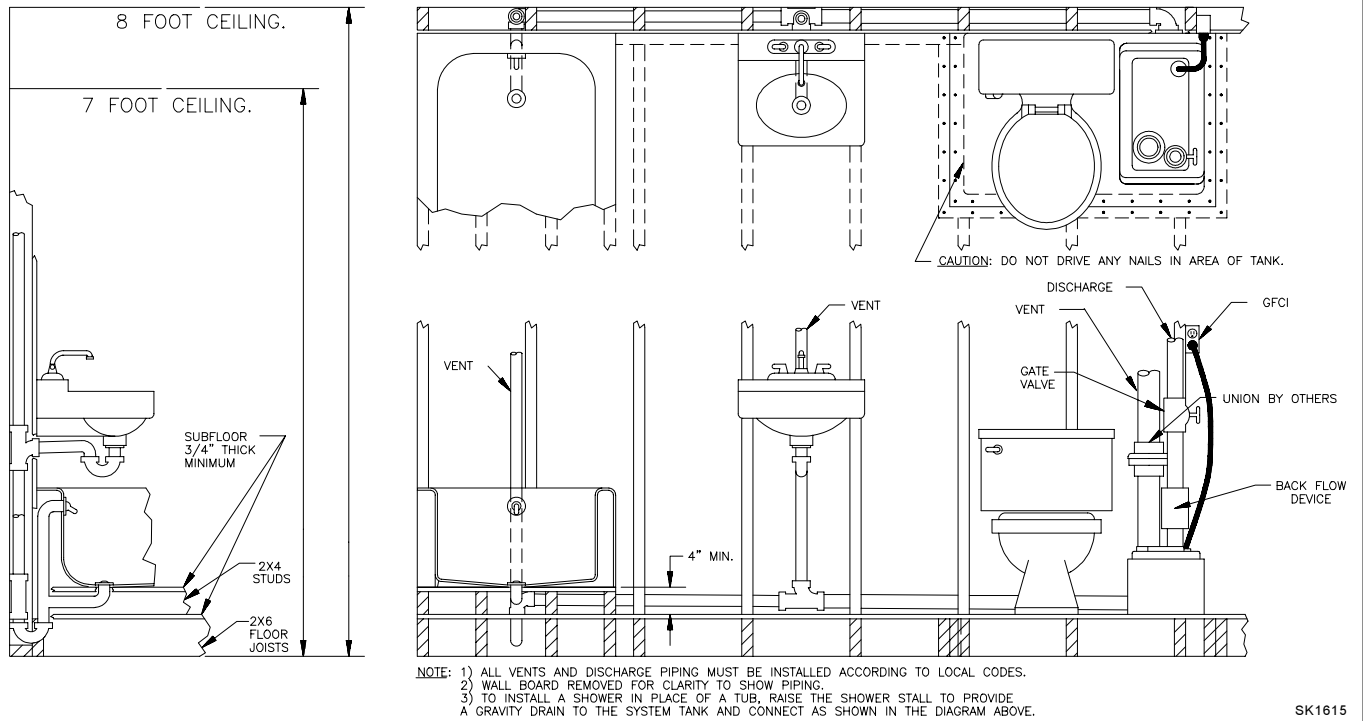

Figure 9.2
9.6) Refer to Figures 9.2 - 9.5 for Typical installation of Tubs & Lavatories.